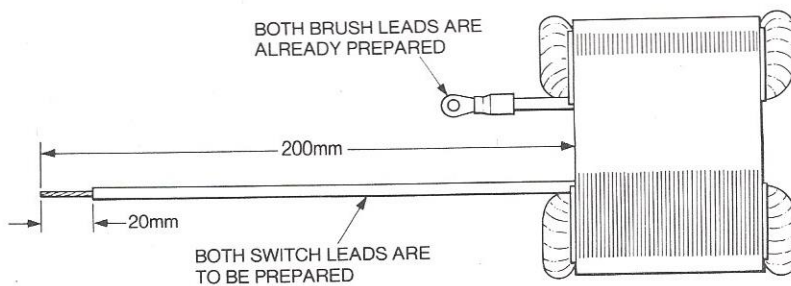

Figure 14 Preparation of the Field Coil switch leads
- (1) physical damage to windings or leads resulting in exposed or fractured conductors
- (2) no blockage of the two bolt holes
- (3) no excess impregnating resin in the bore
- (4) correct voltage as given by both the data printed on the laminations and the colour code painted on the windings
- (5) security of the double insulation, as described in Section 8.4.
10.2.2 Prepare the switch leads of the Field Coil as shown in Figure 14. The ends of the leads should be thoroughly tinned before forming into loops and there must then be no loose strands.